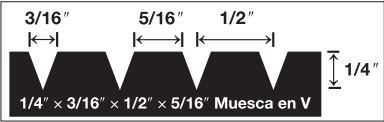

Figura 2
- Llana en V de 1/4" × 1/2" × 3/16" (6 mm × 13 mm × 5 mm) (Figura 2)